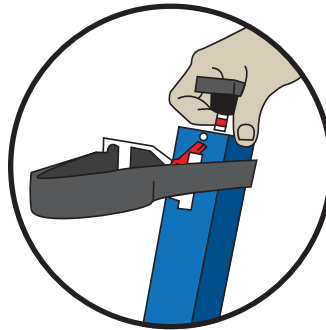

Figure 1
1. Ensure GO2 knob is in the unlocked position and pulled upwards (red locking indicator will show). See Figure 1.